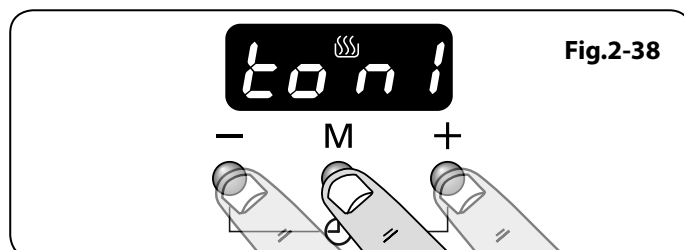

Fig.2-38
1. Press the the [+] and [-] buttons simultaneously, then the mode [M] button. The display will show (ton1,2 or 3) (Fig.2-38).